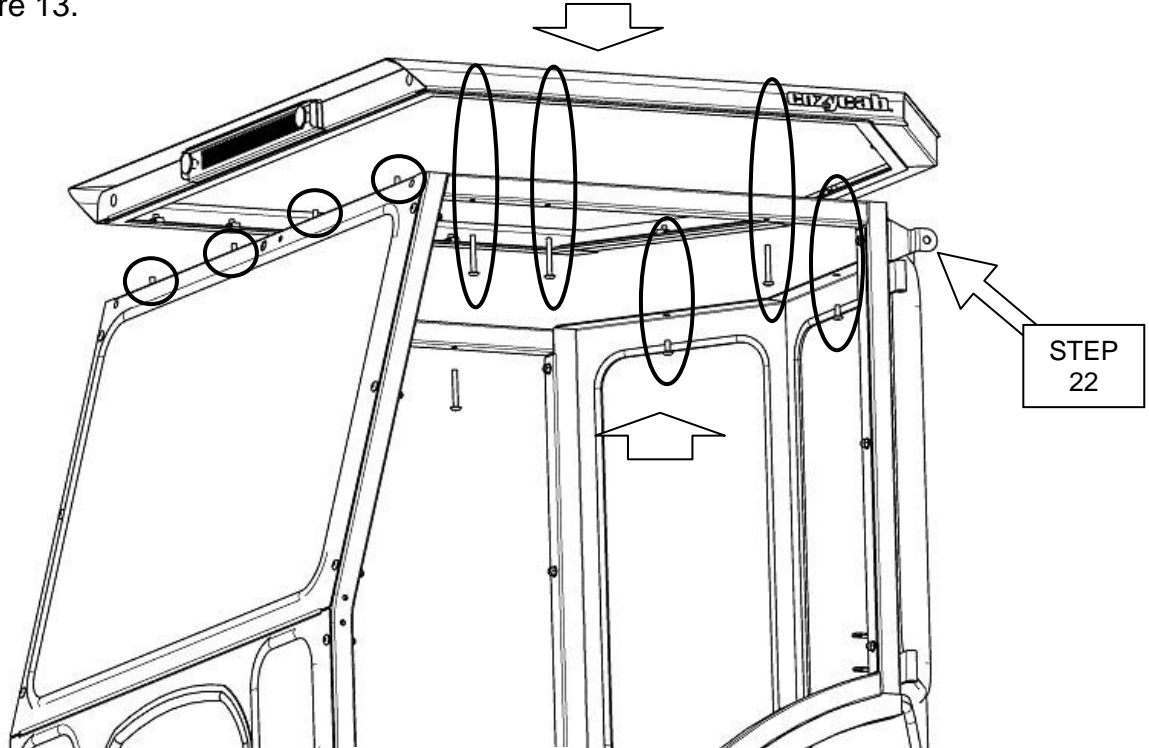

Figure 13
Each side frame using (3) 5/16" x 2.50" long button head bolts on each side. See Figure 13.
22. Re-attach rear flasher lights to remount brackets reusing same hardware. See figure 13. Using wire extension harness, reconnect rear flasher lights.